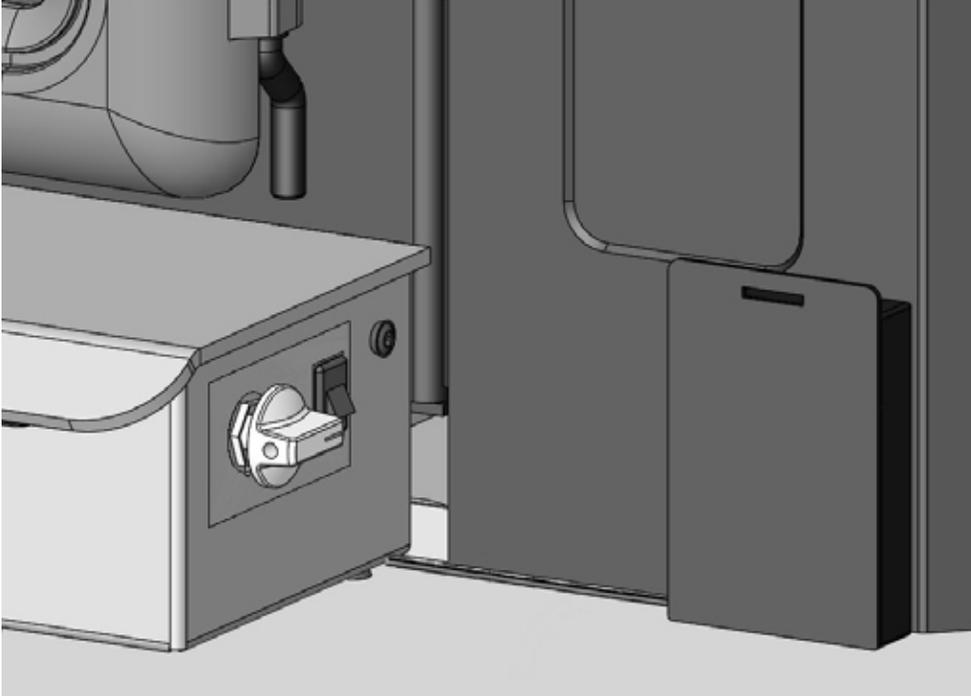

Figure 22: Battery box placement.
4. Place the batteries into the battery box and place the battery box on the outside edge of the surround with the wires facing down. Figure 22
5. Route the wire from the battery box down and into the gap between the blower assembly and the casing bottom on the unit. Figure 22
6. Re-install the Blower assembly, being carefull to not pinch the wires from the battery box. Figure 22